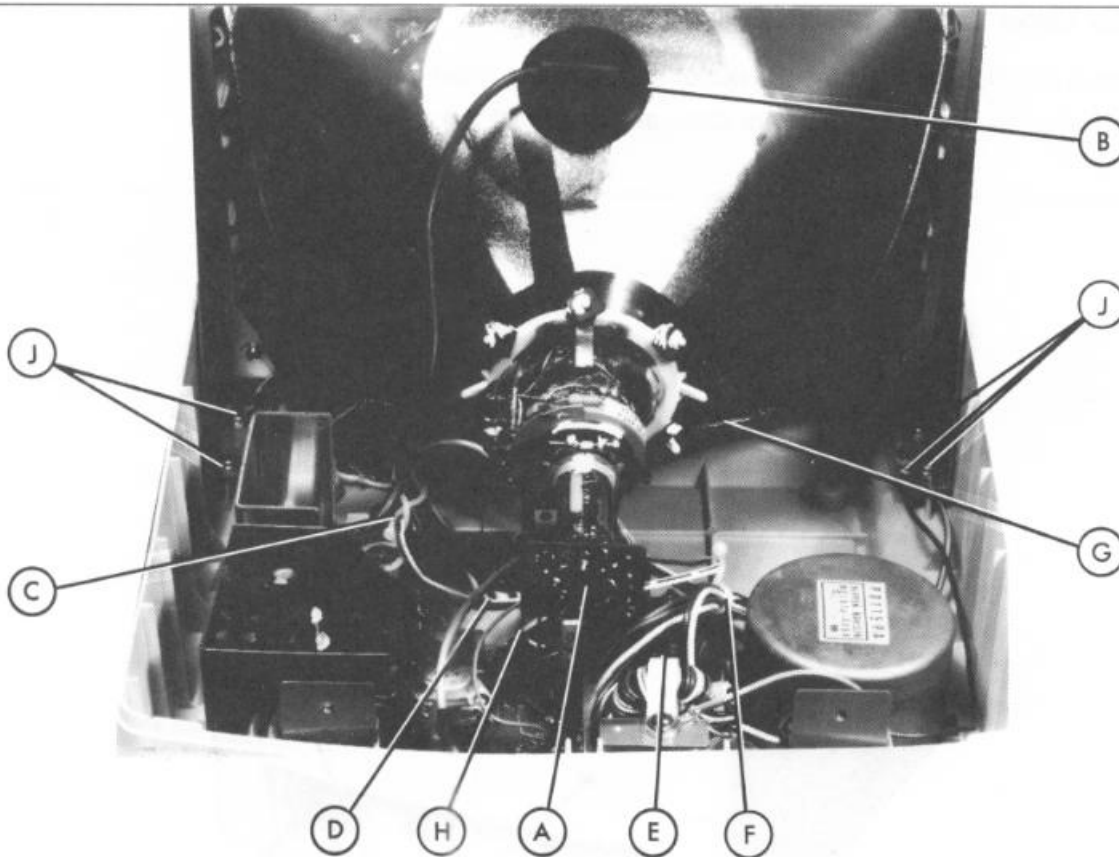

FIGURE 4-18. LOWER CASE REMOVAL/REPLACEMENT
2. Insert two screws (A) to secure the case.
4.5.3 Monitor Lower Case Removal (Figure 4-18)
4.5.4 Monitor Lower Case Replacement (Figure 4-18)